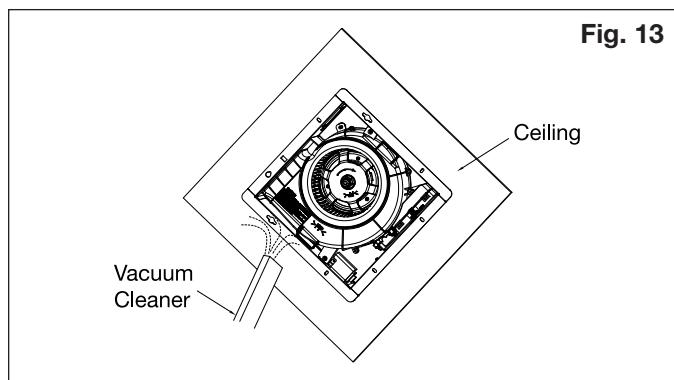

Fig. 13
3. Remove dust and dirt from fan body using a vacuum cleaner. See Fig. 13.